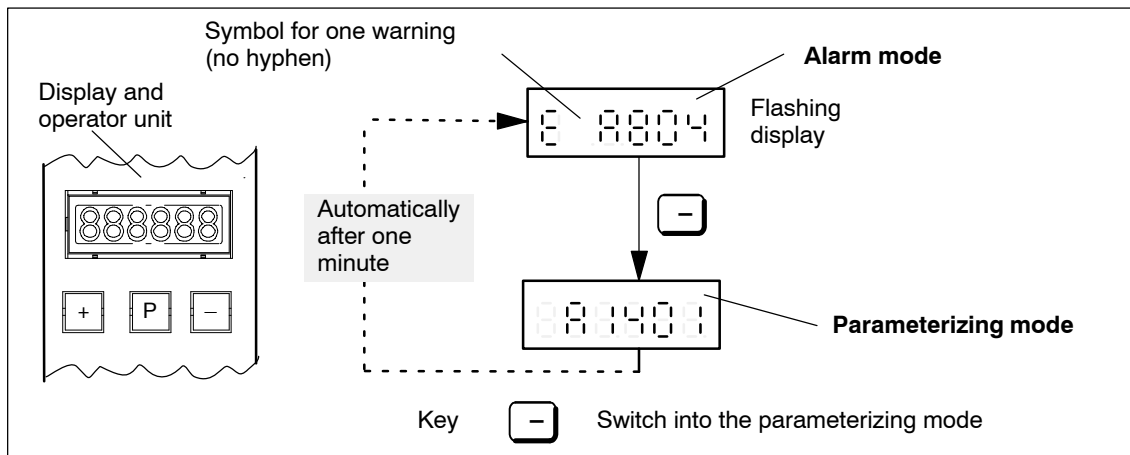

Fig. 7-3 Operator action, if one warning is present
3. This is what it looks like if a warning is present (refer to Fig. 7-3).